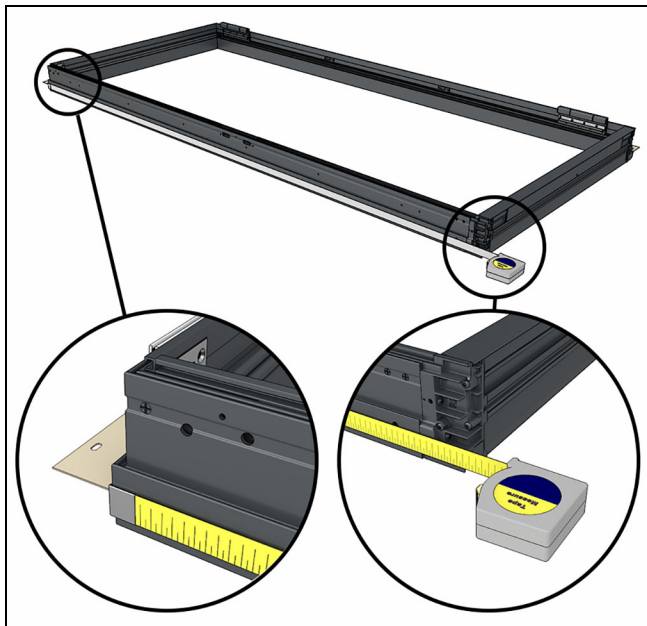

Figure 215
1. Calculate the length of tube steel for the mull by taking the outside measurement of the frame and subtract 1/8" (3). Cut the steel to this dimension. See Figure 215.